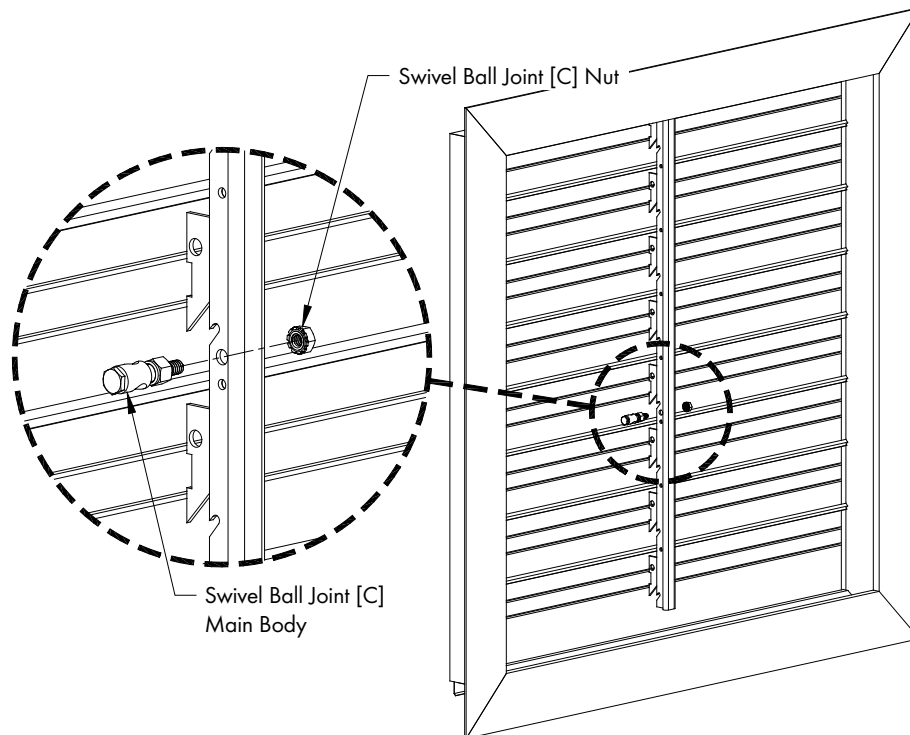

Figure 7
Install (1) Swivel Ball Joint [C] to the Connecting Bar in the new hole with the Nut on the right side of Connecting Bar and the main body of the Swivel Ball Joint on the left. See Figure 7.